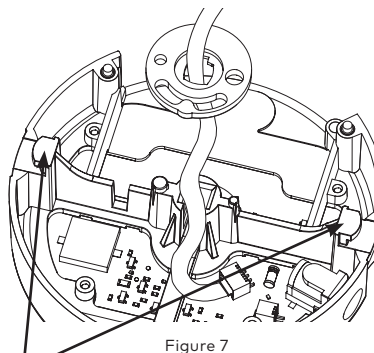

Figure 7
2. Slide the bearing plate (p/n 2674) over cable and press onto the fasteners on the Entry Device (Figure 7).